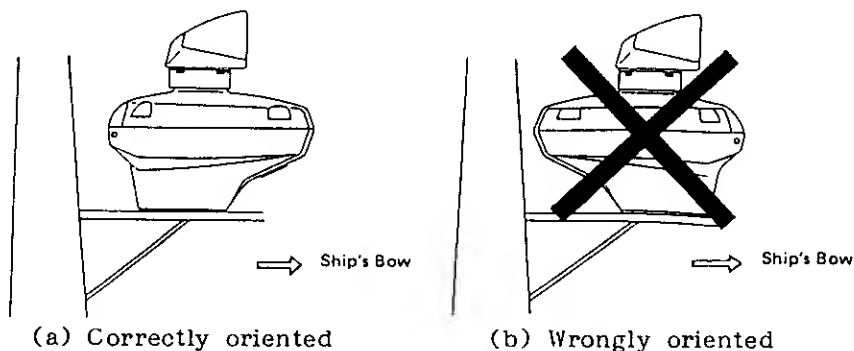

Figure 6-1 Mounting of Scanner Unit
3. Place the scanner housing on the chosen position and orient it as shown in Figure 6-1 (a).